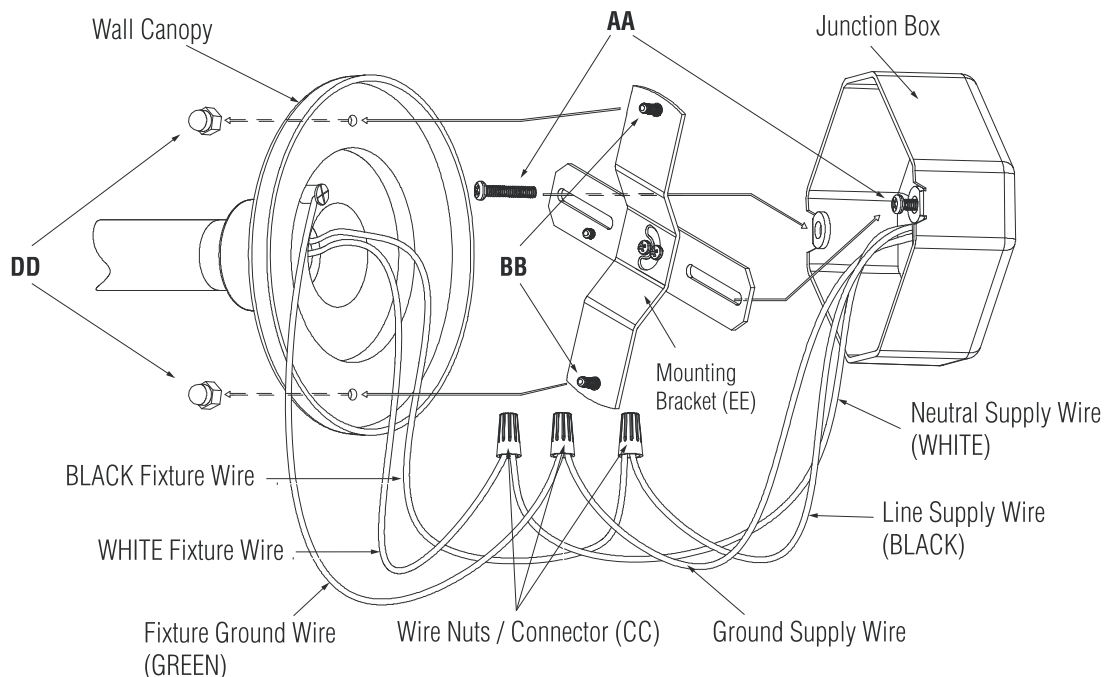

Figure 3
1. Connect the fixture ground wire (GREEN) to the ground supply wire using a wire nut (CC).
2. Connect the BLACK fixture wire to the BLACK (Line) supply wire using the wire nuts (CC).
3. Connect the WHITE fixture wire to the WHITE (Neutral) supply wire using the wire nuts (CC).
4. Carefully tuck all wiring back into the Junction Box, making sure there are no exposed un-insulated wires. (Figure 3)
Place the Wall Canopy over the Junction Box and onto the fixture's Mounting Screws (BB) and adjust the fixture Mounting Screws (BB) until they protrude out an appropriate height from the back of the Wall Canopy to allow the Screw Caps (DD) to hold the Wall Canopy tightly against the wall. Remove the Wall Canopy and secure the position of the Mounting Screws (BB) against the Mounting Bracket (EE). (Figure 3)